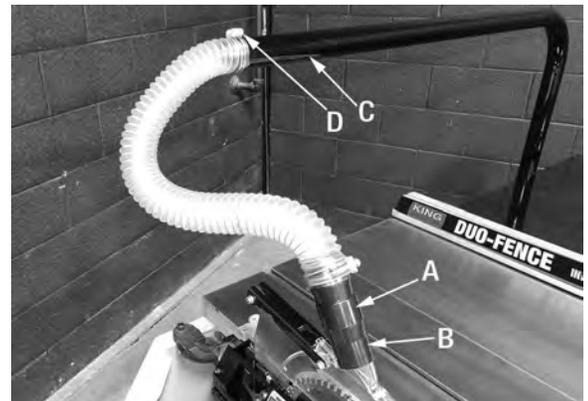

FIGURE 25
8. Install the fitting end of the short 2" hose (A) Fig.25 onto the blade guard dust chute (B) as shown. Install the other end of the 2" hose to the overarm (C) and secure it in place using a 2" wire clamp (D).